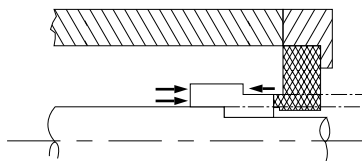

FIGURE 44. Balanced Seal
- A balanced seal (Figure 44) is used when the application has either a high suction pressure or a liquid specific gravity of 0.7 or less.